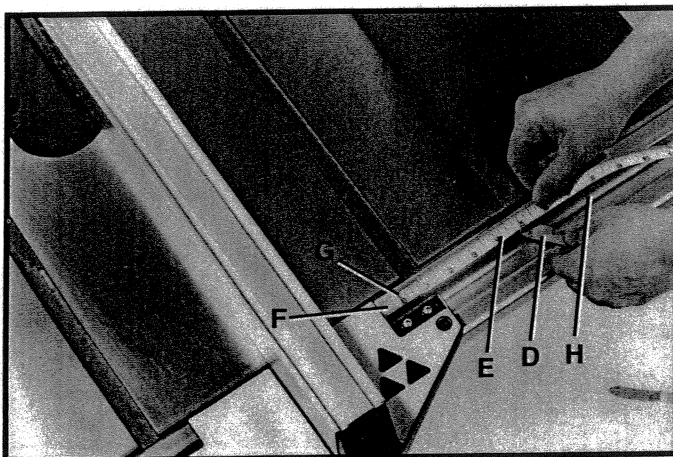

Fig. 32
2. Partially remove the adhesive backing (D) Fig. 32, from scale (E). Position scale (E) under cursor (F) until "zero" mark on scale (E) is directly under the cursor line (G). Press down lightly on scale (E) so it adheres to guide rail (H).